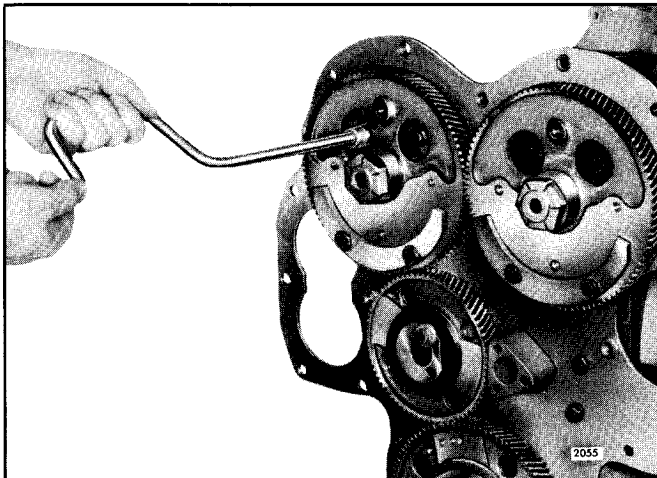

Fig. 2 - Removing or Installing Thrust Washer Retaining Bolts
11. Remove the two retaining bolts that secure the camshaft or balance shaft thrust washer to the cylinder block by inserting a socket wrench through a hole in the web of the gear (Fig. 2).